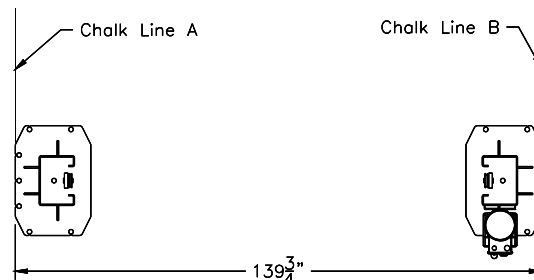

Fig. 1 – Column Layout
- Using the Overall Width (C) Dimension from **Fig. 1**, chalk two parallel lines on the floor within 1/8" tolerance. Erect both column assemblies. Align the base plate edges to the chalk lines.